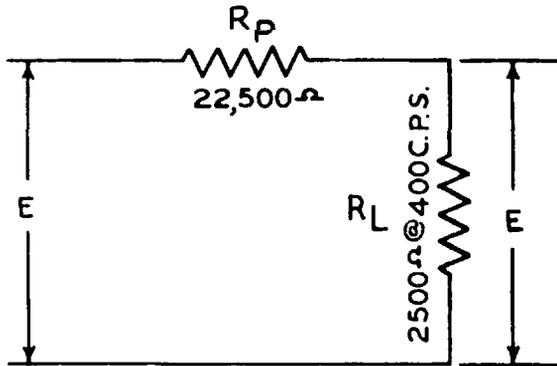
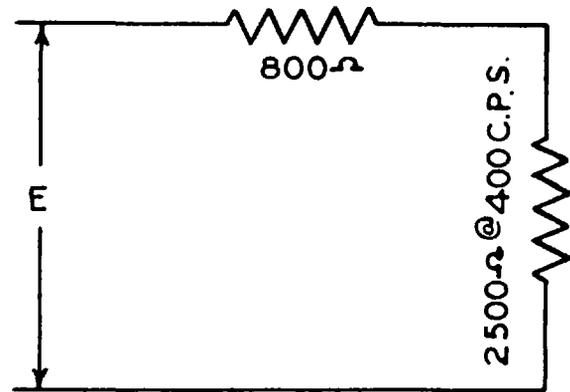

FIG. 3
FIG. 4
**REDUCTION OF PLATE RESISTANCE:** In addition to the reduction in distortion obtained by inverse feedback, there is also a reduction in the effective plate resistance of the tubes. A high plate resistance is a definite disadvantage in the case of a power tube which operates into a speaker load which is more or less variable depending upon the impedance of the voice coil. In the circuit of Fig. 3, it may be easily seen that the voltage  $E$  developed across the load depends a great deal upon the actual value of  $R_L$ , which is the reflected impedance of the voice coil. This is due to the fact that the signal current depends almost entirely upon the high plate resistance of the tube. Since the load resistance is low in comparison to the plate resistance, the voltage developed across the load is almost directly proportional to the impedance of the load which varies appreciably with change in frequency. In Fig. 4 it may be seen that the voltage across the load does not vary so much since the signal current depends both upon the load and upon the plate resistance of the tube. If the voice coil has an appreciable amount of reactance, the impedance rises with the frequency, causing distortion and giving an unnatural amount of "highs". The high plate resistance is unsuitable from another viewpoint, that of the amount of low frequency distortion which may be tolerated. This low frequency distortion is not due to the tubes which remain unchanged regardless of the frequency, but depends upon the magnetizing current in the output transformer. The magnetizing current is a distorted nonsinusoidal wave and this current, on flowing through the high plate resistance of the tube, develops a nonsinusoidal voltage drop across the tube which, when subtracted from the input signal, results in a distorted wave across the output. Unfortunately, most amplifiers today are measured for distortion at 400 cps where the magnetizing current is practically negligible. It is not uncommon to find beam power amplifiers without inverse feedback which have only 25 per cent of the rated power at 40 or 50 cycles. This low frequency distortion is particularly objectionable since